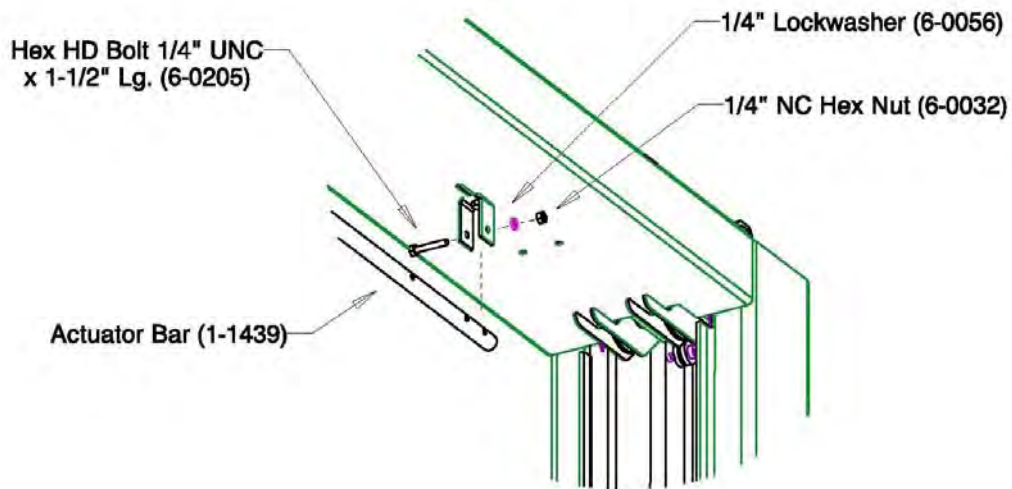

Figure 8: Actuator Bar Installation
Note: The safety shut off will disconnect the power to the power pack when an obstruction touches the padded bar or the carriages reach their maximum height. The safety shut off switch is factory pre-wired. Refer to **Figure 8**.
2. Attach the Actuator Bar to the Actuator Mounting Bracket using one (1) 1/4" NC x 1 1/2" lg. hex head bolt, one (1) 1/4" lockwasher, and one (1) 1/4" NC hex nut. Orient the Actuator Bar so that the last hole (out of the set of 3) is used when mounting. **(Figure 8)**